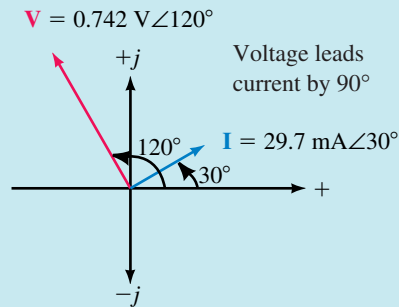

FIGURE 18–11 Voltage and current phasors for an inductor.
c. The voltage and current phasors are shown in Figure 18–11.